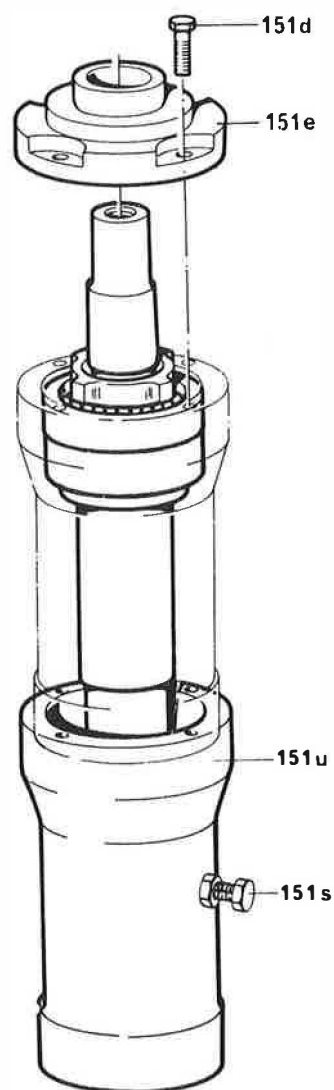

Fig. 8/6
- 4) Fig. 8/5: To remove neck bearing bridge, hold spindle in inverted position, upper end down, and tap spindle lightly against a wooden surface. Removal can be facilitated by alternately rapping with a rubber hammer on two opposite sides of the rim of the neck bearing bridge.